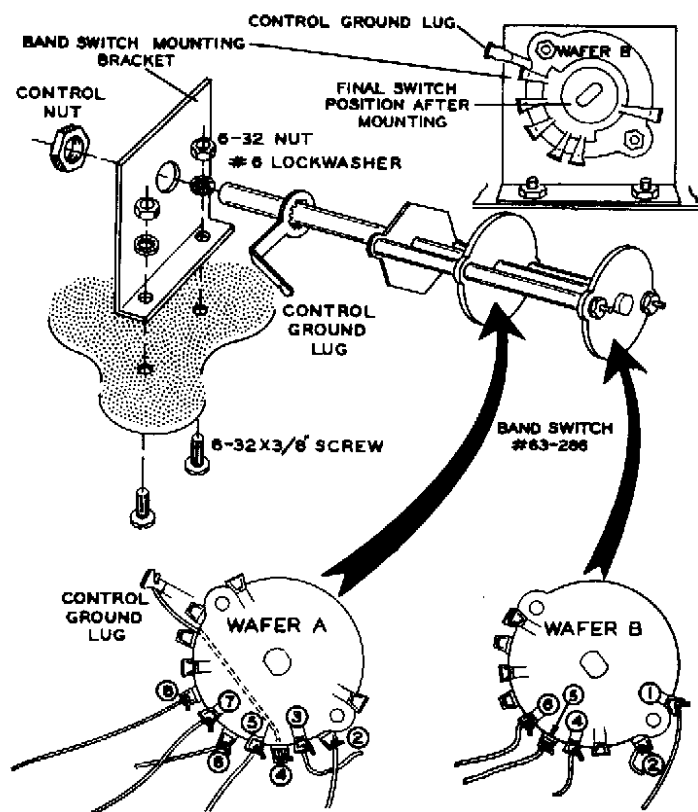

Figure 13
- ( ) Locate the 4-position, 2-section rotary switch (#63-286) and position it as shown in Figure 13.
- (✓) Locate the BAND switch mounting bracket, and mount the BAND switch to the bracket, using a control ground lug, and control nut as shown in Figure 13. Position the switch and control ground lug as shown.
- (✓) Mount the BAND switch with the mounting bracket to the chassis using two 6-32 x 3/8" screws, #6 lockwashers, and 6-32 nuts as shown in Figure 13.